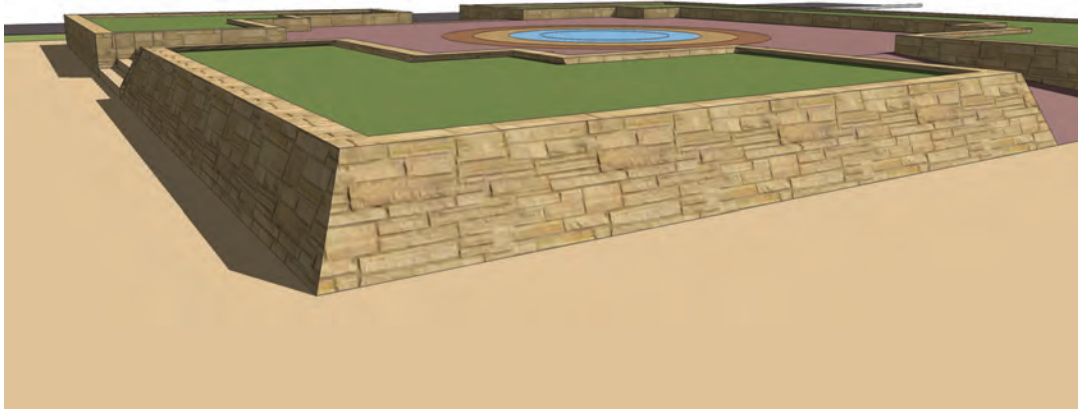

Fig. 7-48: The sloped vertical faces of the planter wall
- ▶ The vertical wall faces will fold inward with the scaled top surface, creating a sloped wall (Fig. 7-48).